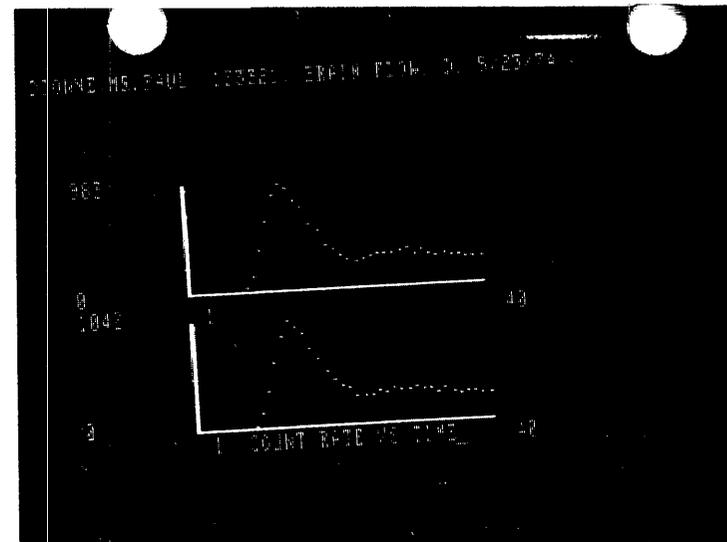

FIGURE 19. Dynamic curves of the ROIs
- 4) plot the curves (maximum of 12) and save the curves in a save area (SD_n) (Figures 19,20)